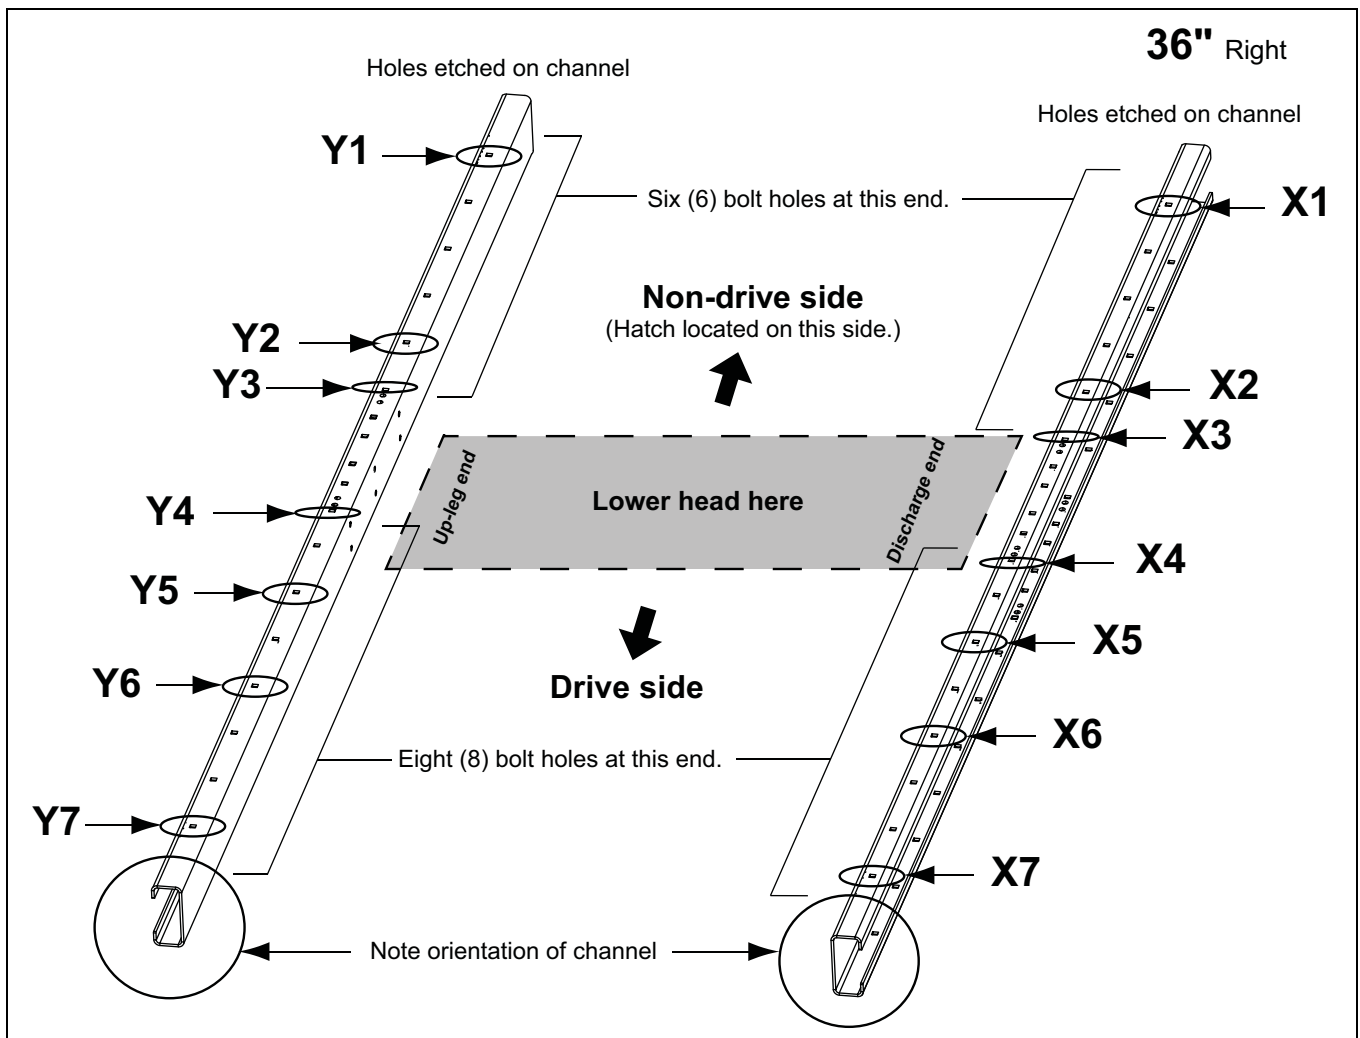
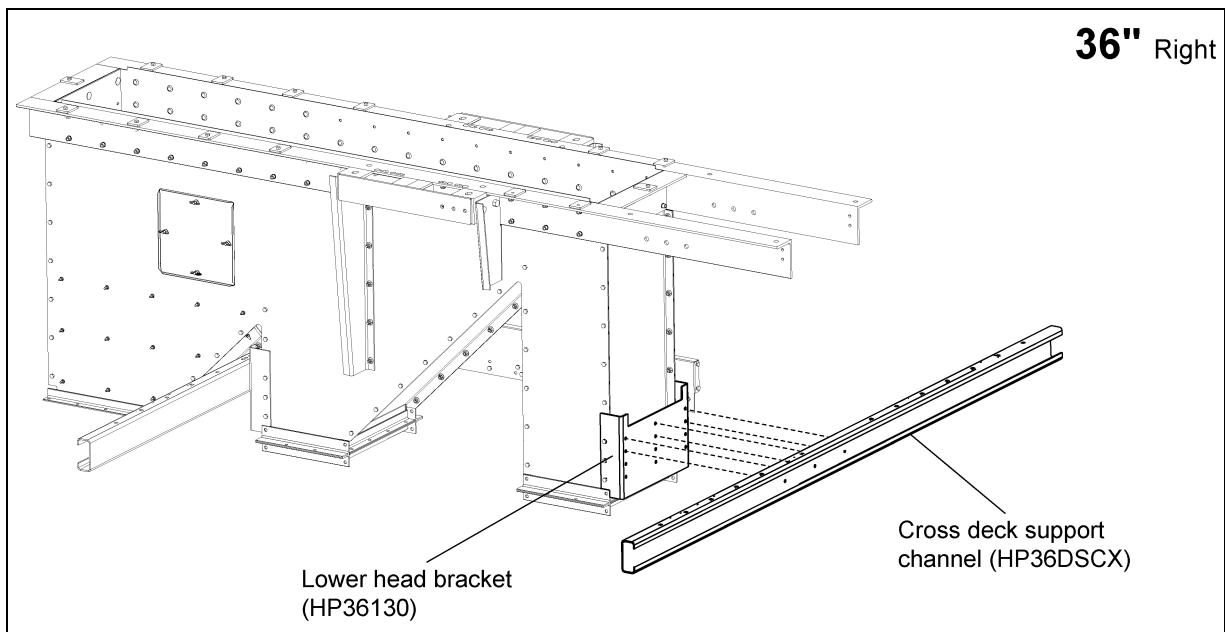

Figure 8B 36" Right Side Drive Channel Position
Figure 8C
(See Figure 8B on Page 63.)
3. Attach cross deck support channels (HP36DSCX) to the top-most set of holes of the lower head brackets (HSP36130) using 3/8" x 1" bolts and nuts and torque properly. (See Figure 8C on Page 63.)
***NOTE:** *The channels MUST be oriented as shown in Figure 8B and Figure 8C on Page 63 in order for the decking and subsequent assembly to be done correctly.*